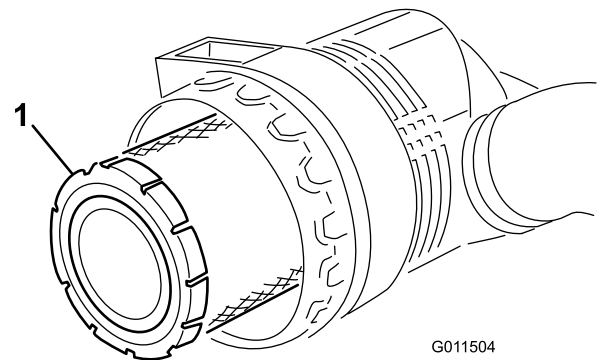

**Figure 50**
Service the air cleaner filters when the air cleaner indicator (Figure 50) shows red or every 400 hours (more frequently in extremely dusty or dirty conditions). Do not over-service the air filter.
1. Pull the latch outward and rotate the air cleaner cover counterclockwise. Remove the cover from the body (Figure 50). Clean the inside of the air cleaner cover.
6. Reset the indicator (Figure 50) if it shows red.